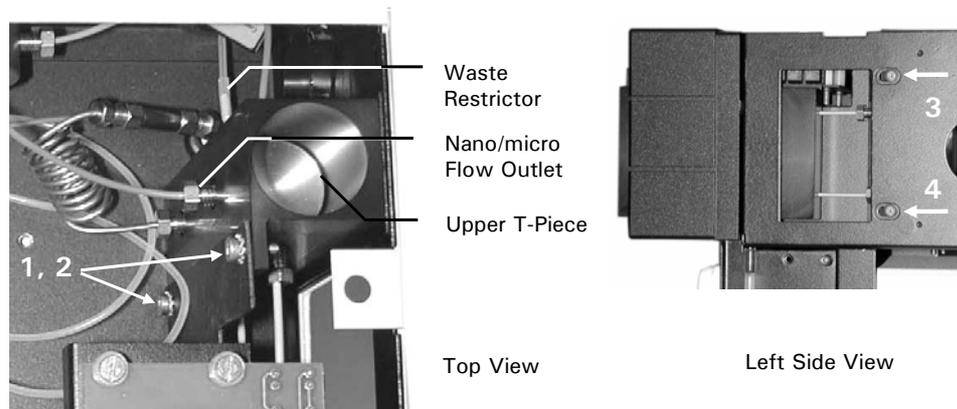
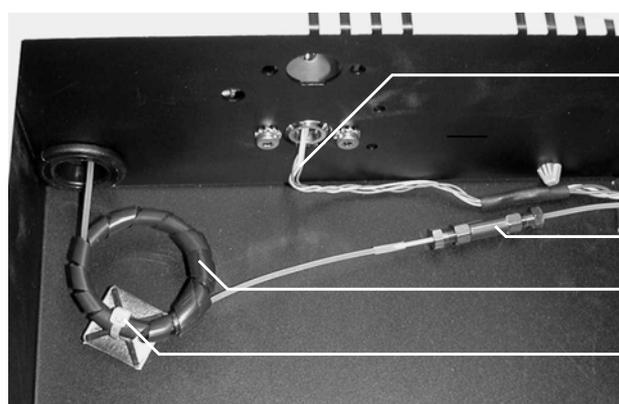

FIGURE 3-25 Removing the T-Piece Assembly
FIGURE 3-27. Waste Restrictor and Union (Solvent Tray removed)
- d) Remove the four screws for the T-piece assembly (items 1–4, FIGURE 3-25).
- Loosen the waste restrictor connection from the lower T-piece (FIGURE 3-25) and from the union (FIGURE 3-27).
- Remove the cable tie (FIGURE 3-27) and remove the waste restrictor.
The Connecting Capillary between the Calibrator (upper T-piece) and the Manual Injection Valve (option) is shown in FIGURE 3-27. TABLE 3-1 indicates the appropriate configuration for Micro-, Capillary- and Nano LC systems.